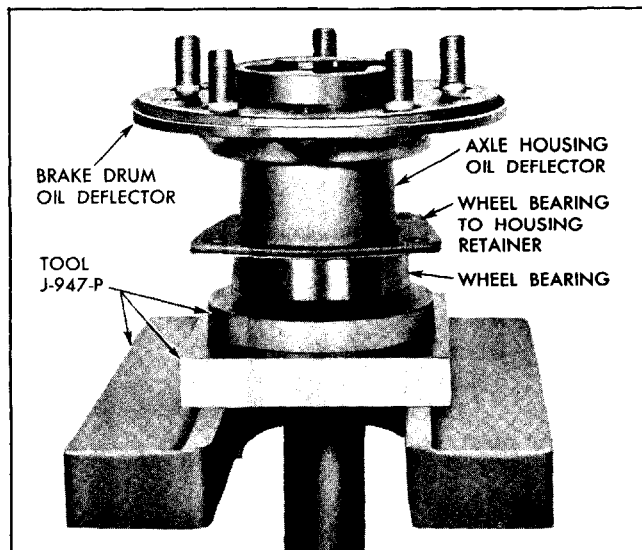

Fig. 4-13 Bearing Replacer Tool J-947 in Place for Pressing Bearing on Shaft
4. If removed, install oil deflector and bearing retainer plate on shaft. Install bearing on shaft using tool J-947-P to bear only on inner race and press bearing firmly against shoulder on shaft (Fig. 4-13).